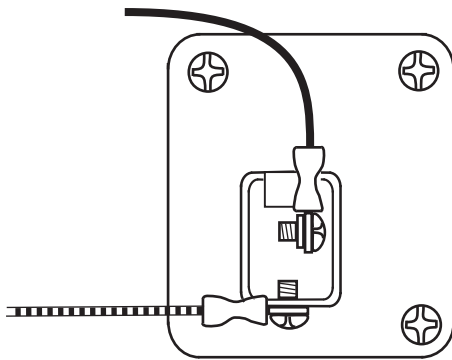

Fig.11
(2) Terminal 1 and 2 has to be connected to switch as illustrated in Fig.11.